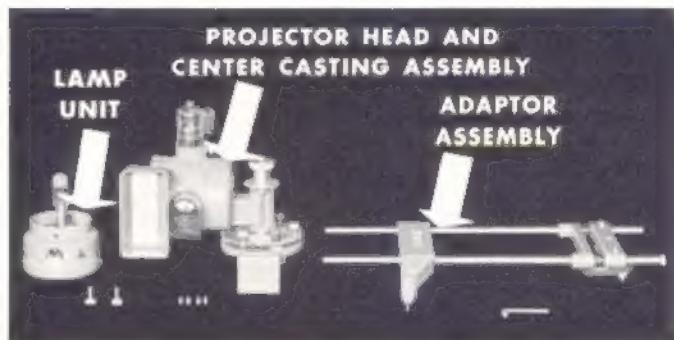

FIGURE 22
12. **ALL LENS ADJUSTMENTS MUST BE MADE AT THE FACTORY:** If needed, you may quickly obtain from the factory a replacement projector head. Remove the projector head and center casting assembly by sliding top casting off rods (remove end screw in rod) and slide center casting off. Be sure to **keep** pressure pins, lamp unit, top and bottom castings with rods. (See Figure 22) Ship **ONLY** projector head and center casting assembly as a unit. (Take it to your jobber who will forward it to the factory in a suitable carton well padded and braced.)